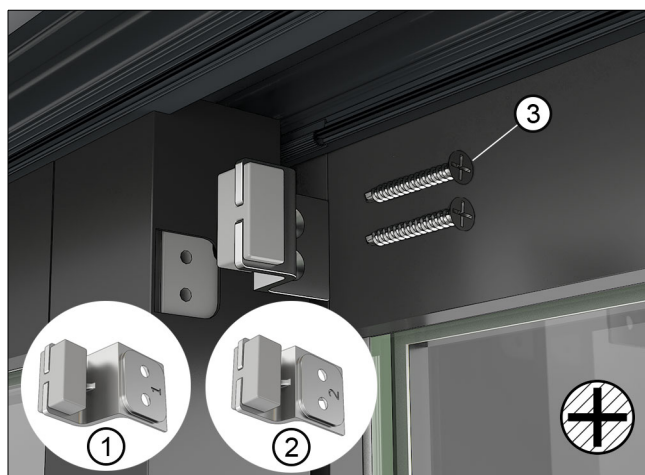
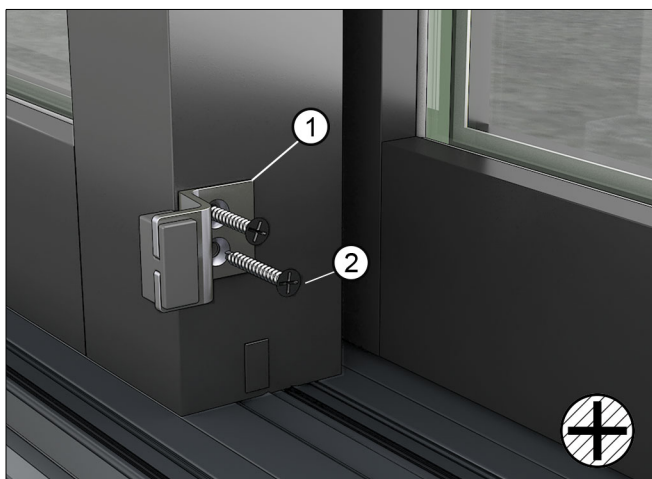

Figure 86 Top secondary panel bumper
Figure 87 Bottom secondary panel bumper
11. On secondary panels, fasten panel bumpers to the interior meeting stile at the top and bottom with #10 x 1 1/2" Phillips head screws. See Figure 86 and Figure 87.